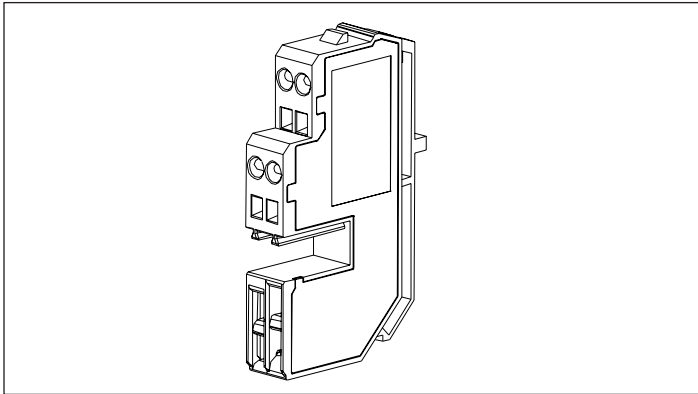

Figure 1. Drawout Terminal Block.
For drawout circuit breakers, secondary terminal blocks (Figure 1) are mounted onto an insulated support frame on the top front portion of the drawout cassette.
Step 1: Become familiar with the drawout terminal block (Figure 1 of Section 1) and the terminal block mounting bracket.